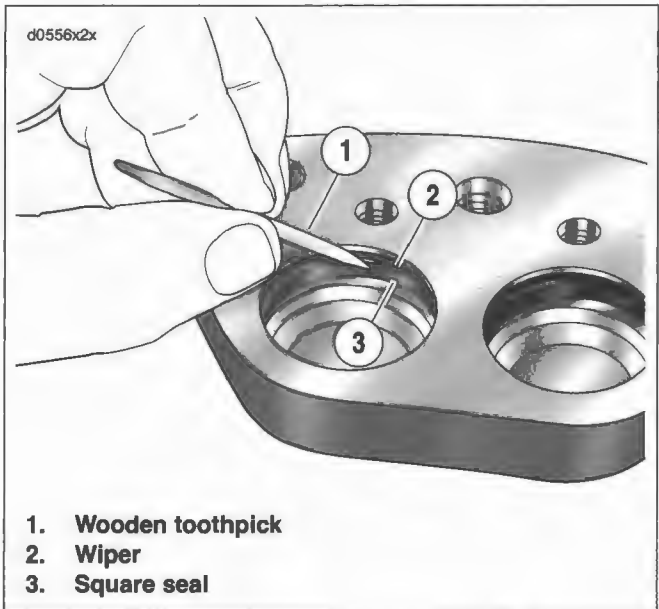

Figure 2-77. Wipers and Square Seals
- 7. See Figure 2-77. Using a wooden toothpick (1), remove a wiper (2) and square seal (3) from each caliper bore. Discard all removed parts.
2. See Figure 2-77. Install a new square seal (3) and a new wiper (2) into each piston bore.